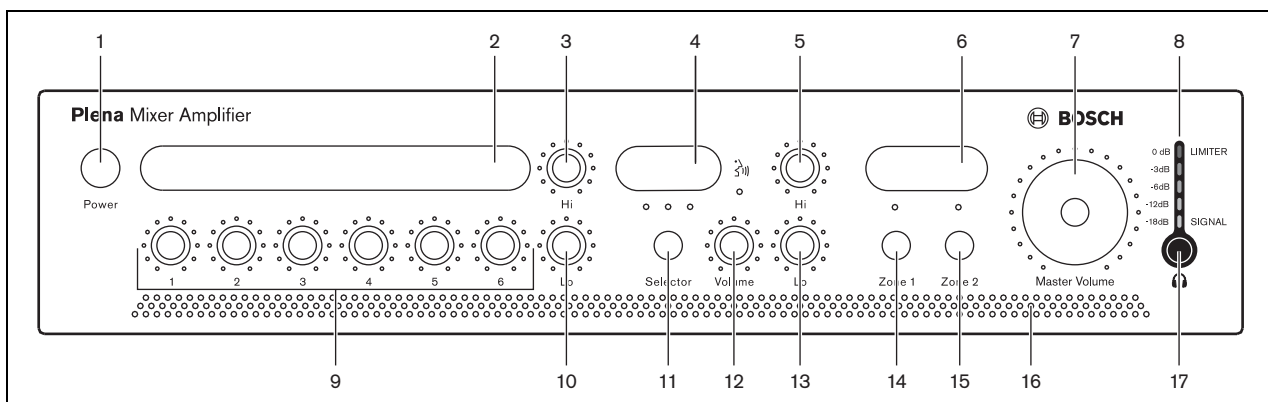

figure 5.2: Front panel
- 2 Set the power button (1) on the front of the unit to Off - popped out (see figure 5.2).
Set the power button (1) on the front of the unit to Off - popped out (see figure 5.2).
Users can create custom labels for the: microphone/line inputs, description of the music sources, and audio output zones 1 and 2. These labels can be attached to the mixer amplifier at position numbers 2, 4, and 6 (see figure 5.2). Colored pins can also be inserted at various positions around the dial controls to indicate the favorite settings for a particular application.
Use the Hi (high) and Lo (low) tone controls (see figure 5.2, numbers 3 and 10) to collectively change the tone of microphone/line inputs 1 through 6.
Use the Hi (high) and Lo (low) tone controls (see figure 5.2, numbers 5 and 13) to change the tone of the selected music source.